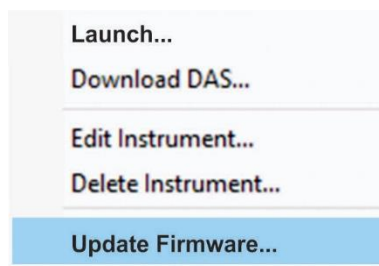

Figure 4. Instrument Menu for Firmware Update
8. Right click the instrument name in the NumaView™ Remote software interface and click "Update Firmware..." (Figure 4).